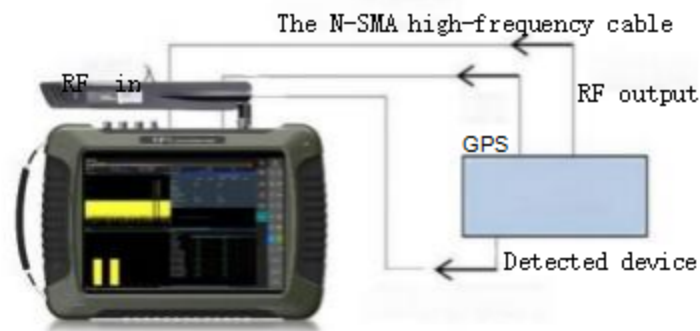

Figure 10.1 Connecting diagram of the tested equipment and RMT series spectrometer
- Step 1. Use the tested equipment to output a GMSK signal, set the frequency at 950 MHz and power at -30 dBm, and connect the output of the measured equipment to the RMT series RF input port of the spectrometer, as shown in Figure 10.1. It is recommended to connect the reference signal for optimizing the test index. Referring to section 3.2.2.